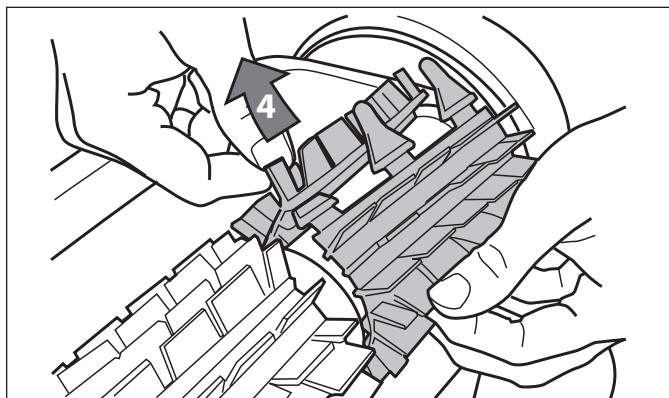

Figure 34. Pull Tabs Through Each Slot
- Thread each tab into the slot provided and gently feed it through until the heel comes out at the other side of the slot. Refer to Figure 34.